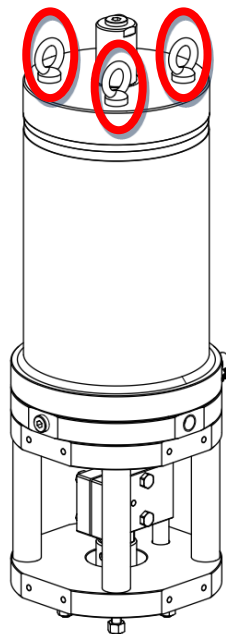
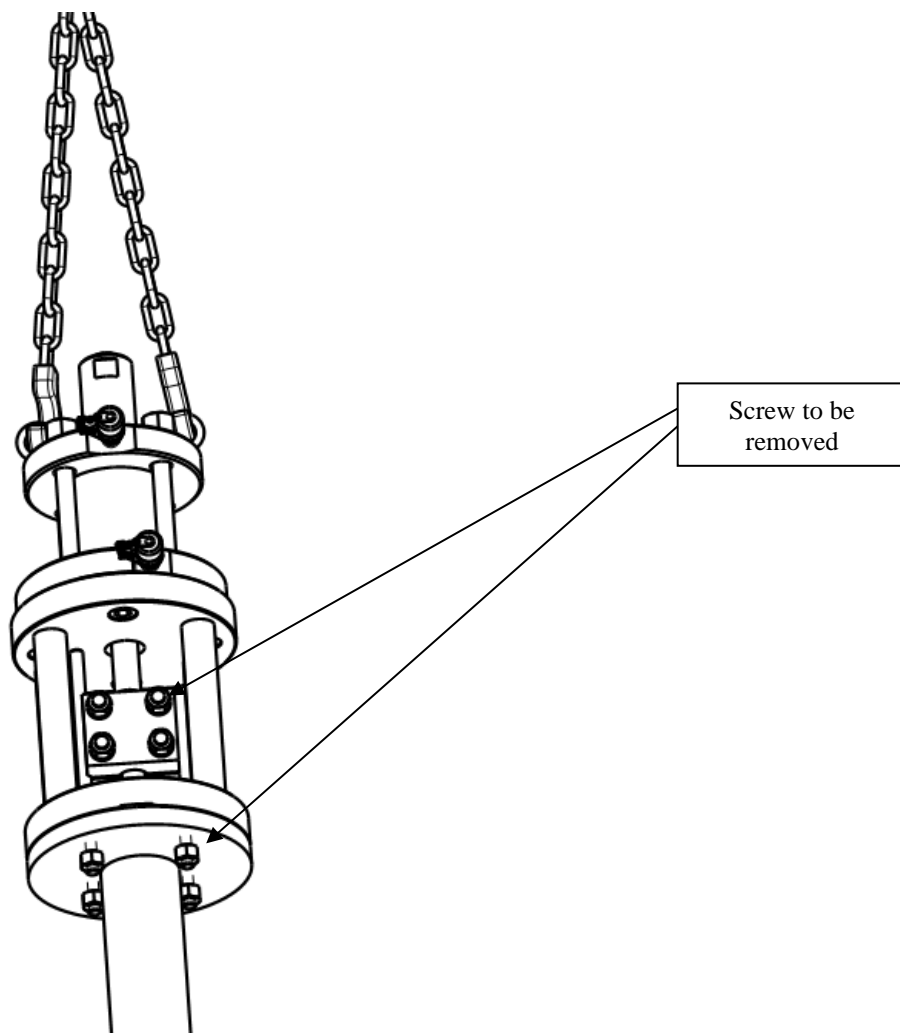

Fig. 2 – Lifting points for SC/VHS actuator type
Fig. 4 – Disassembling of the actuator
<p>Warning: Lift the actuator using the eyelets as shown in Fig.2. The fastening points are appropriate for the lifting of the actuator alone and not for the valve + actuator assembly.</p>
- Conditions in which the machinery meets the requirement of stability during use, transportation, assembly, dismantling when out of service, testing or foreseeable breakdowns, are shown in Fig.2.
<p>Warning</p> 	<p>Before starting the disassembly operations it is mandatory to disconnect the hydraulic power and to exhaust the cylinder and any other pressure retaining component mounted on the actuator.</p> <p>Before removing the screws between actuator and valve or adaptor flange or mounting bracket, the actuator should be connected with appropriate lifting means. Lift the actuator as shown in Fig.4. The lifting points, see Fig. 2, are appropriate for handling the actuator alone and not for the valve + actuator assembly.</p>